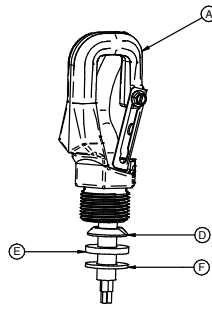

FIGURE 1
**INSTALLING HOOK/LOOP MOUNT (See Figures 1 and 2):**